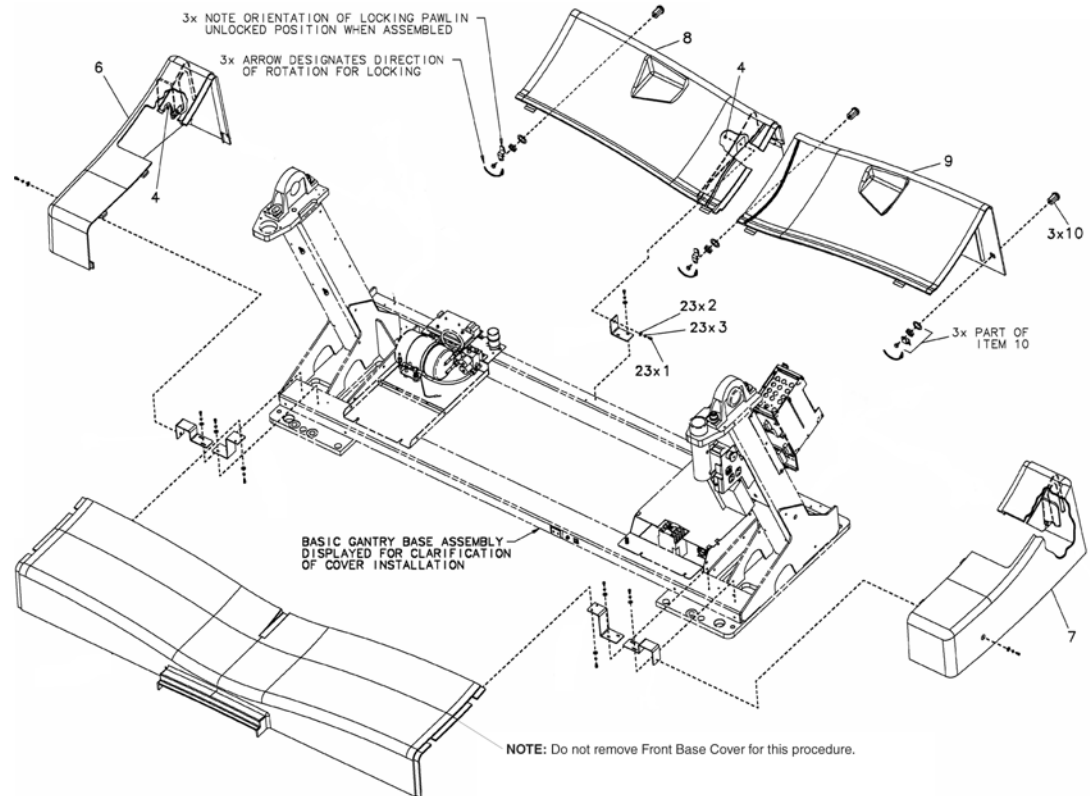

Figure 3-4 Gantry Base Covers, exploded view of an H2 base. Cover installation is same for gantry procedures.
- 3.) Remove both left and right Gantry side base covers (items 6 & 7, respectively, in Figure 3-4) and then both rear base covers (items 8 & 9, in Figure 3-4).
- 5.) Reinstall both rear base covers (See Figure 2-3, on page 25 or Figure 3-4, on page 37).